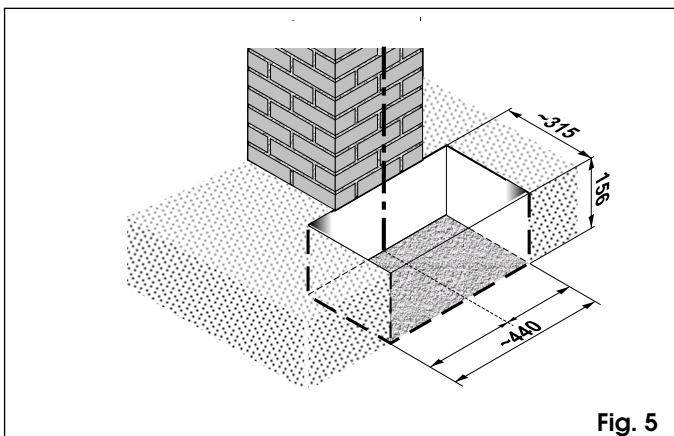

Fig. 5
- 1) Dig out a hole for the foundation box as shown in fig. 5.